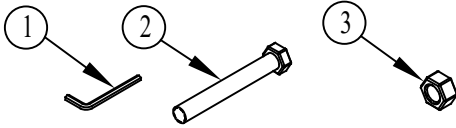

Figure 1: Kit contents.
1. **Verify** you have all necessary parts of the kit. (Figure 1, Table 1)